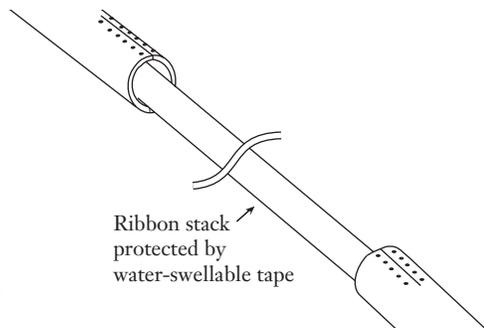

Figure 27
6.17 Follow the UAT III instructions to access the ribbons. After using the UAT III and Ideal tool on the central tube, the end result will look like Figure 27.